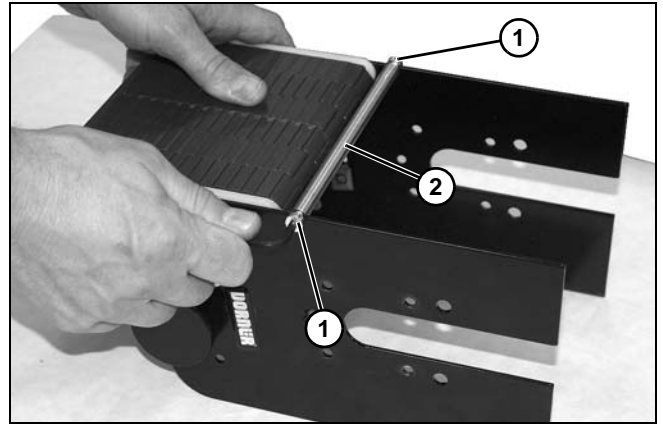

Figure 119
11. Loosen socket head screw (**Figure 119, item 1**) on rod (**Figure 119, item 2**) each side of transfer tail. Remove rod.